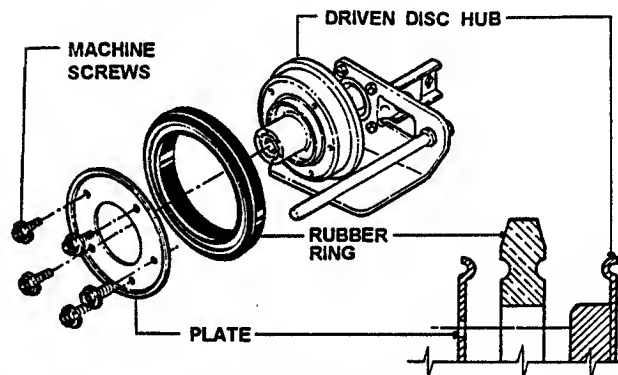

FIGURE 3.17
3. Remove the five machine screws and plate which secure the rubber ring to the driven disc hub. See Figure 3.17.